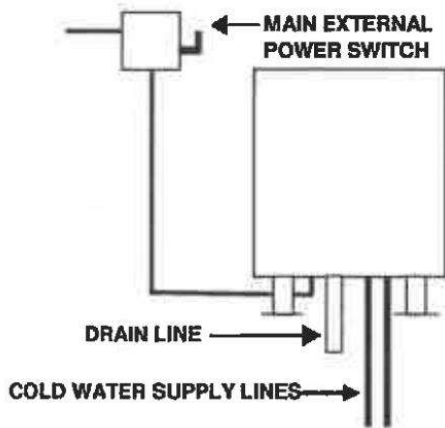

Figure 3-3
3. A main disconnect switch and a separate fuse or breaker should be installed near the unit as shown in Figure 3-3. Throughout the remainder of this manual the fused disconnect switch is referred to as the main external power switch.